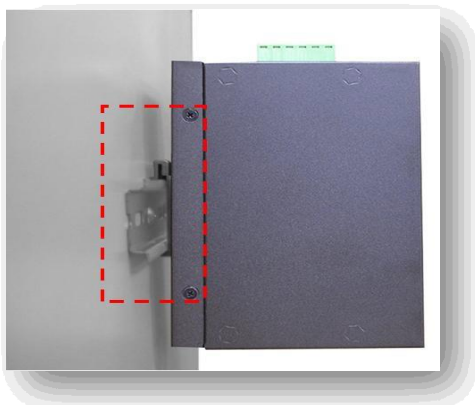

Figure 3.2
3. After the DIN-Rail bracket is installed on the rear side of the switch, insert the top of the DIN-Rail on to the track as shown below in Figure 3.2.